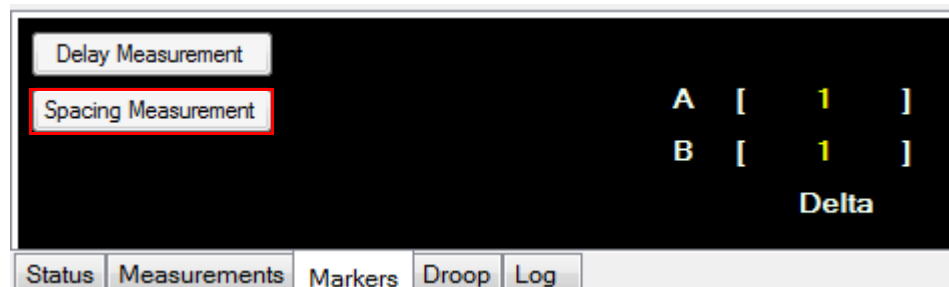

Figure 2-83 Spacing Measurement button in the Marker view
- 1 Select **Spacing Measurement** in the Marker view as shown in Figure 2-83.